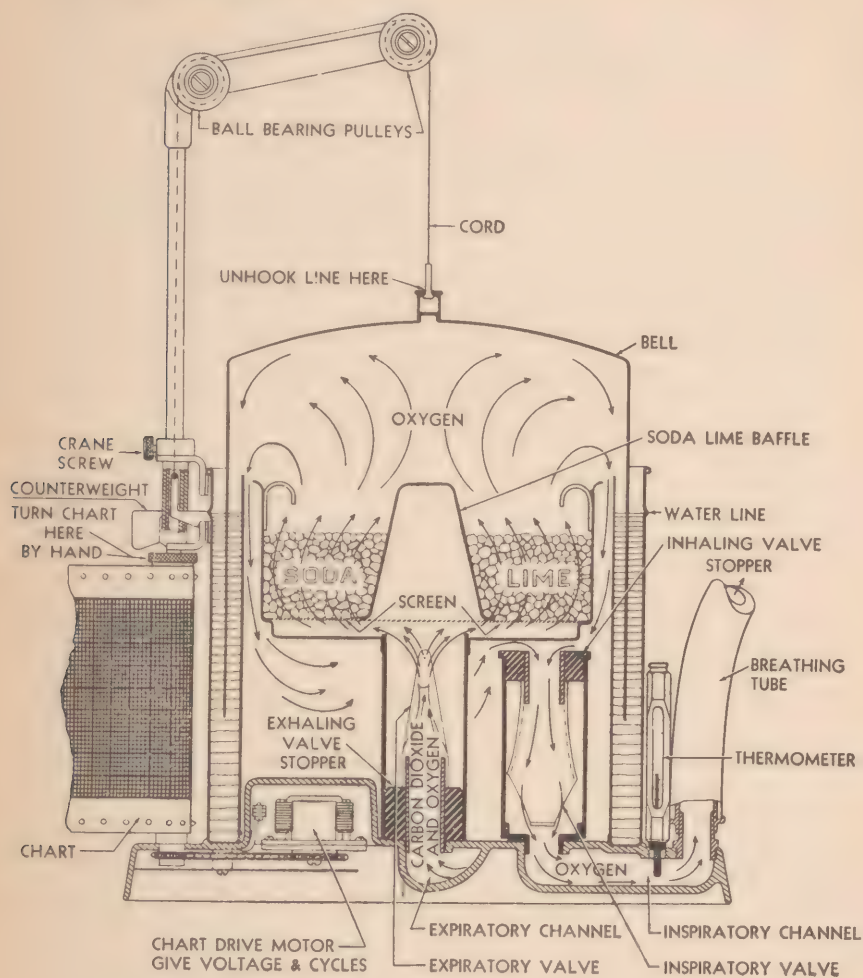

Figure 3. Cross section of McKesson Recording Water Type Metabolizer.
d. Fill moat with water. (1) Replace soda lime container.
(2) Replace the bell and pour water (having the same temperature as the room) into the moat around the bell until it reaches the bead which is about 1 inch from the top (fig. 3). Excess water may be drained through a valve in the back of the instrument.
(3) Swing the crane to the right, back into place. Be sure the thumbscrew that locks the crane goes into the hole in the crane. A slightly depressed groove in the crane will help to gauge this. This hole centers the pulleys and puts them at the right height.
(4) Pass the counterweight cord over the pulleys and reconnect the end to the bell as before, being careful not to raise the bell.
e. Charge with oxygen. (1) Slip the oxygen yoke over the neck of the cylinder. Place it so the projection where the tube attaches to the yoke fits into the outlet hole of the oxygen cylinder. There should be a washer at this connection.